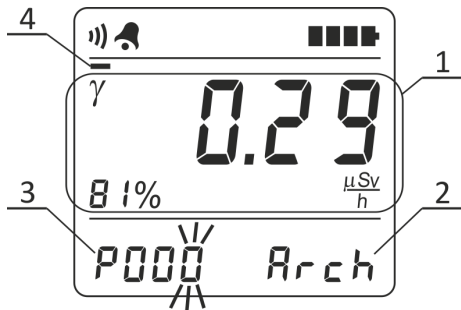

Figure 2.8 – LCD of the radiometer (submode of measurement result saving)
2.3.3.6.25 To save the measurement result in the nonvolatile memory, shortly press SAVE button in the mode of displaying the measured characteristics of ionizing radiation. The radiometer will switch to the submode of measurement result saving. “Arch” (2) characters on the LCD of the radiometer are the indication of this submode (Figure 2.8).